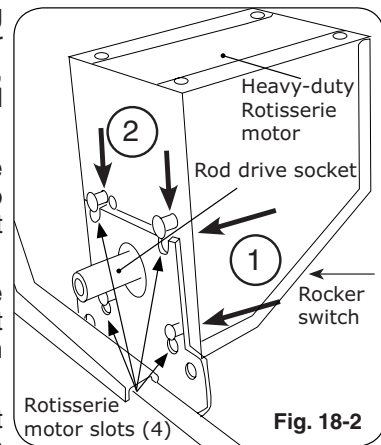

Fig. 18-2
2. Slide rotisserie motor fully onto motor bracket (right side, Fig. 18-2).